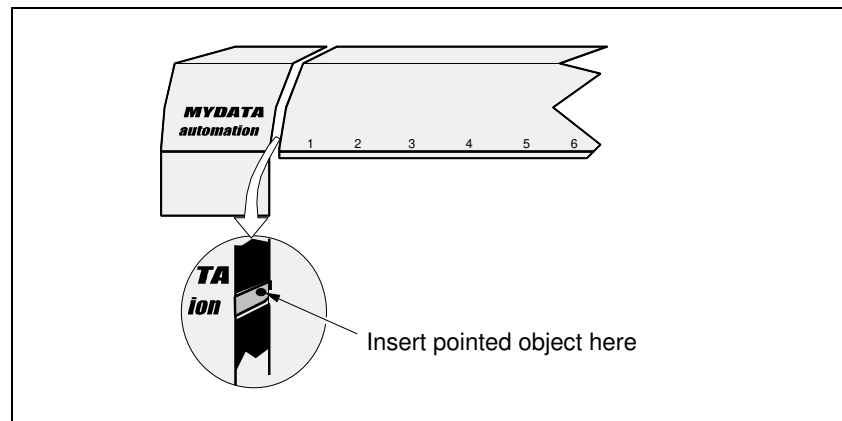

Figure 5-1. Opening the upper machine cover.
1. Open the upper left cover using a pointed object, for example a thin screwdriver, see Figure 5-1.